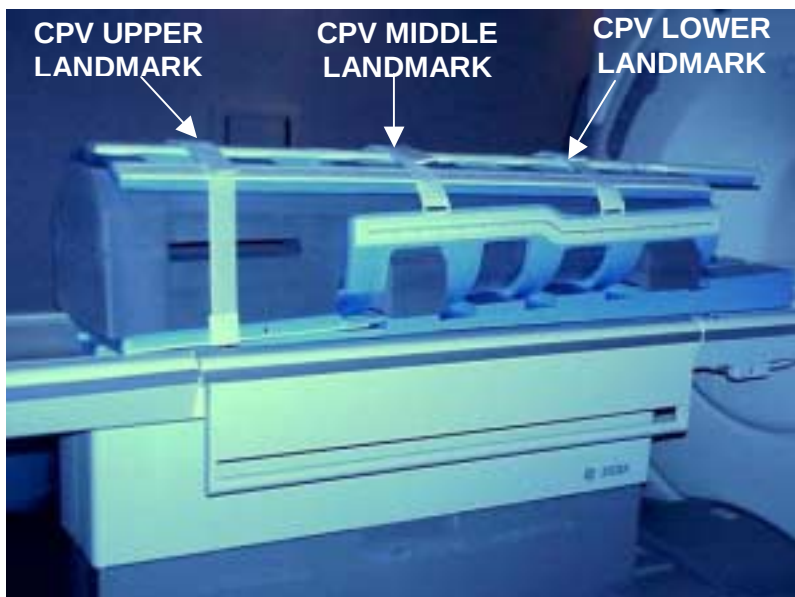

Figure 11: Coil landmarks.
5. For the Upper section, set the landmark on the landmark line that is marked on the upper (head) end of the coil (see *Figure 11*). When scanning the Middle section, set the landmark in the middle landmark line (see *Figure 11*). For the Lower section, set the landmark on the lower landmark line (foot) end of the coil (see *Figure 11*).
6. At the magnet, press the “**Alignment Light**” button to turn on the light. Move the cradle to align the coil landmark to the alignment lights as shown in *Figure 11*. Press the “**Landmark**” button to landmark the alignment.